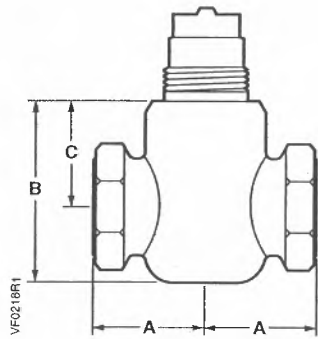

**Figure 4.**
- See *Application Bulletin (AB)-1 Control Valve Selection and Sizing (155-285)* for further recommendations.
- Allow sufficient space for servicing the valve and actuator. See Table 11 for valve body dimensions. See Figure 4 and Table 10 for dimensions of the service envelope recommended around the actuator.
The letters in Figure 4 refer to the valve centerline to top of actuator, the width of the actuator, and service envelope dimensions in Table 10. See Table 11 for valve body dimensions.